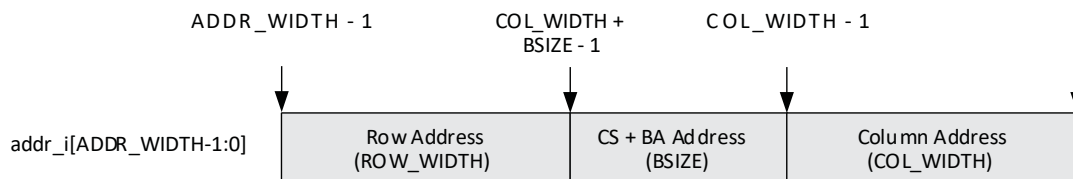

Figure 2.7. Local-to-Memory Address Mapping for Memory Access
Mapping local addresses to memory addresses is an important part of a system design when a memory controller function is implemented. You must know how the local address lines from the memory controller connect to those address lines from the memory because proper local-to-memory address mapping is crucial to meet the system requirements in applications such as a video frame buffer controller. Even for other applications, careful address mapping is generally necessary to optimize the system performance. In the memory side, the address (A), bank address (BA) and chip select (CS) inputs are used for addressing a memory device. You can obtain this information from a given data sheet. Figure 2.7 shows the local-to-memory address mapping of the Lattice LPDDR2 SDRAM Controller Lite IP Core.
The Lattice LPDDR2 memory controller core uses the local address signal, `addr_i`, to program these registers. The core accepts a user command, MRW, to initiate the programming of mode registers. When MRW is applied on the `cmd_i` signal, the user logic must provide the information for the targeted mode register and the programming data on the `addr_i` signal. When the target mode register is programmed, the memory controller core is also configured to support the new memory setting. Figure 2.7 and Table 2.7 show the bit mapping of local address signal, `addr_i` for the programming of memory registers.